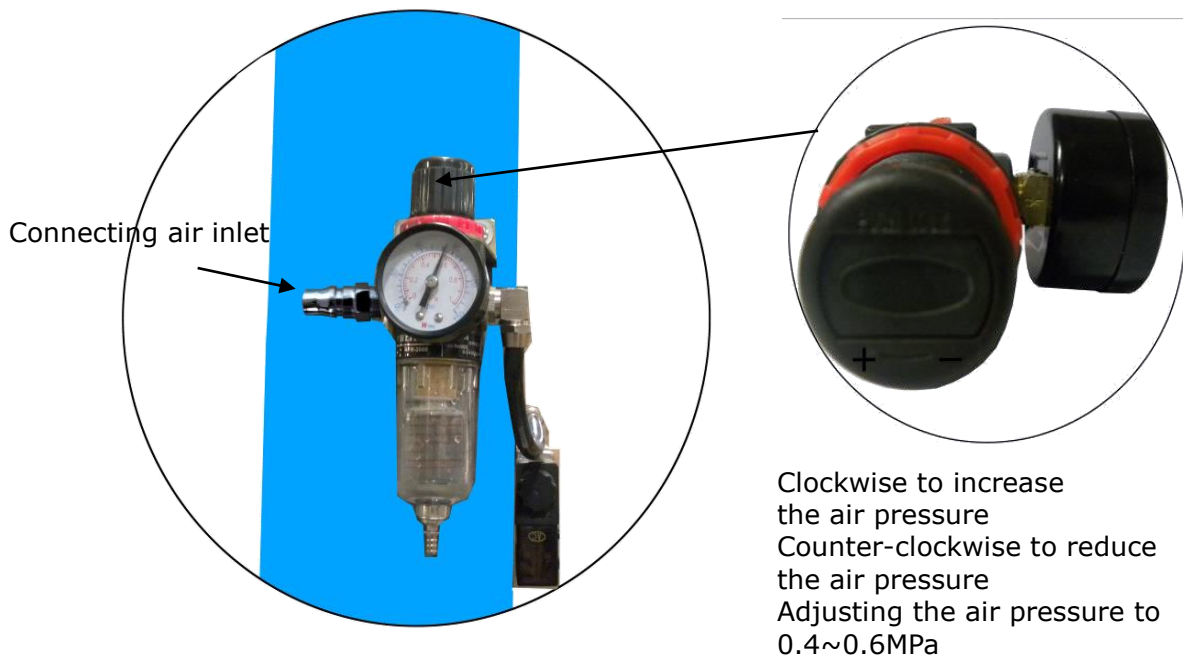

Fig. 29
5. Connecting air inlet (Air supply pressure 5kg/cm^2 - 8kg/cm^2), adjusting the air pressure of Oil-water separator to $0.4 - 0.6\text{MPa}$ (**See Fig. 29**).